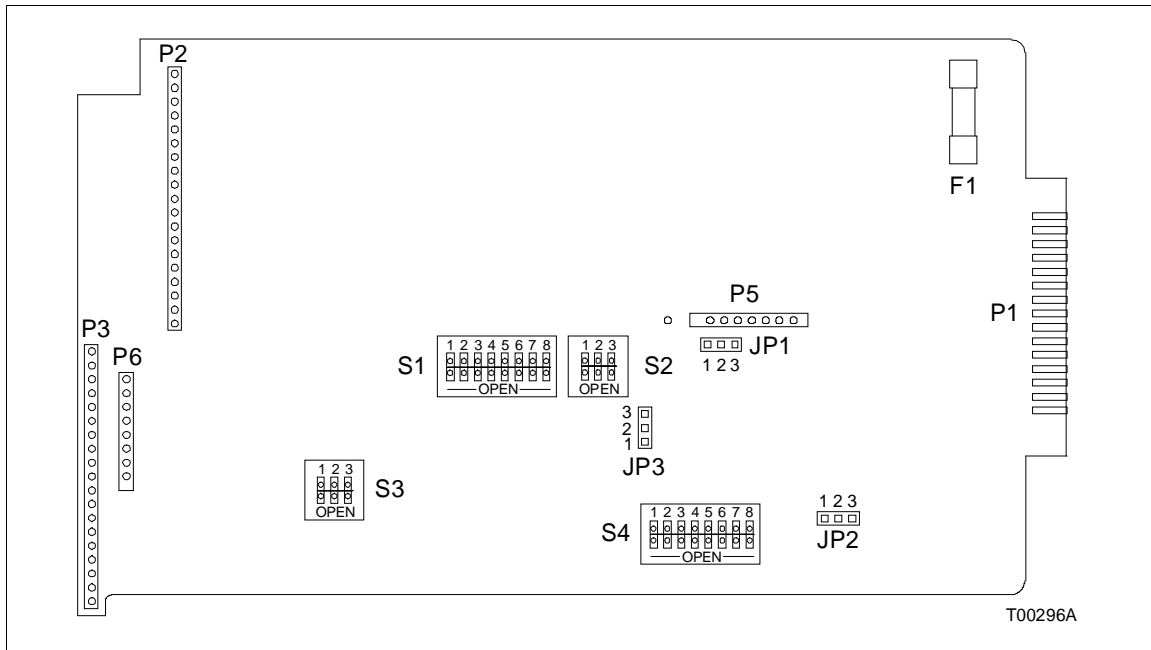

Figure 3-1. Dipswitch and Jumper Locations on the SAC Station Circuit Board
There are four dipswitches and three jumpers on the SAC station circuit board that must be configured before placing the station into operation. Set all option dipswitches so that the station operates properly within the process control strategy. Figure 3-1 shows the location of the option dipswitches and
2. See Figure 3-1 for the location of JP2 and dipswitch SW2.